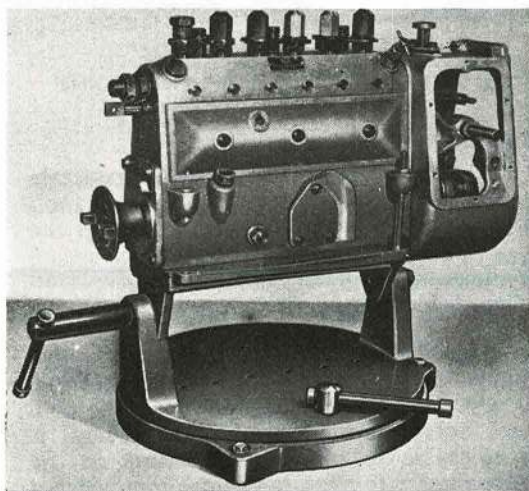
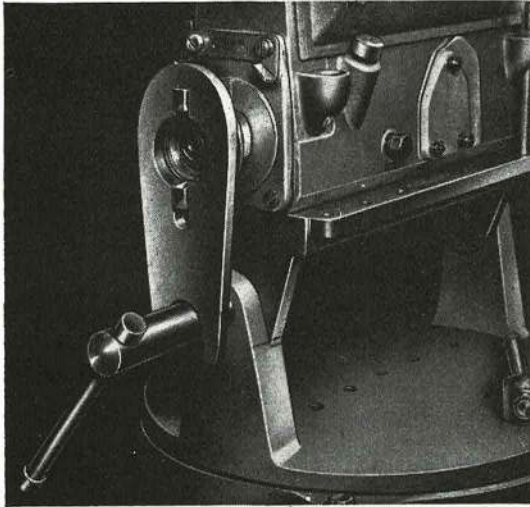

Fig. 6. PUMP MOUNTED ON HARTRIDGE VICE
Fig. 7. CAMSHAFT LOCKING PLATE IN POSITION
11. Before any pump is dismantled, all open fuel connecting points should be effectively plugged or blanked, and the pump thoroughly cleaned externally in kerosine. Dismantling will be made easier if the pump is mounted on a vice as shown in Fig. 6. This also permits the camshaft to be effectively locked (Fig. 7) whilst the governor assembly and driving coupling are being removed. The dismantling sequence as given in Air Publication 1464E or the relevant A.P. should be strictly